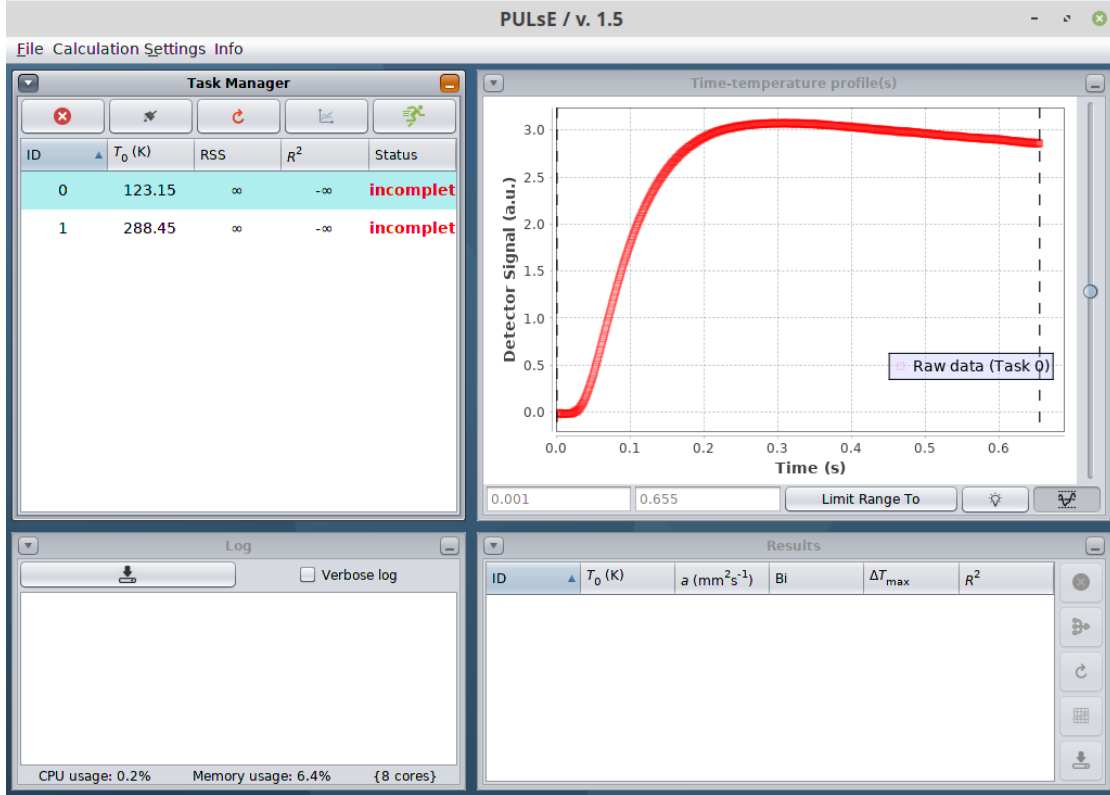

Figure 6: After loading the heating curves.
- At the top left, select “File - Load Data” and then “Load Heating Curve(s)...”. Select the files (either .lfr or .dat) containing the data measured by the machine. Separate tasks will be assigned to each heating curve, appearing in the task table (Fig. 6).